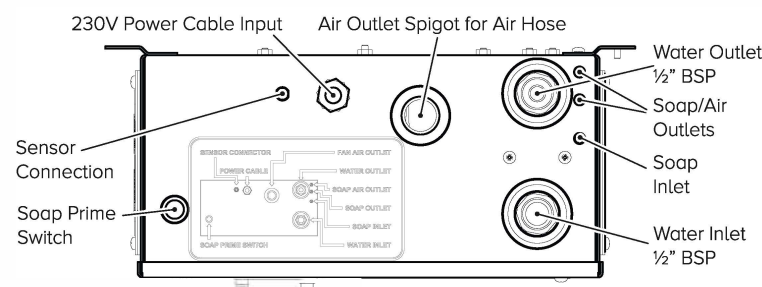

Fig 9
1. To connect the module to the water supply simply screw on half a 1/2" BSP connector to the "water inlet" detailed in fig 9.